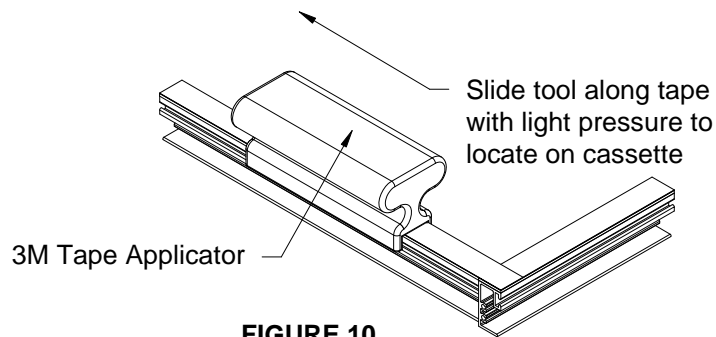

FIGURE 10
- 2.7 Tape applied to cassette using 3M tape applicator SEE FIGURE 10, page 14